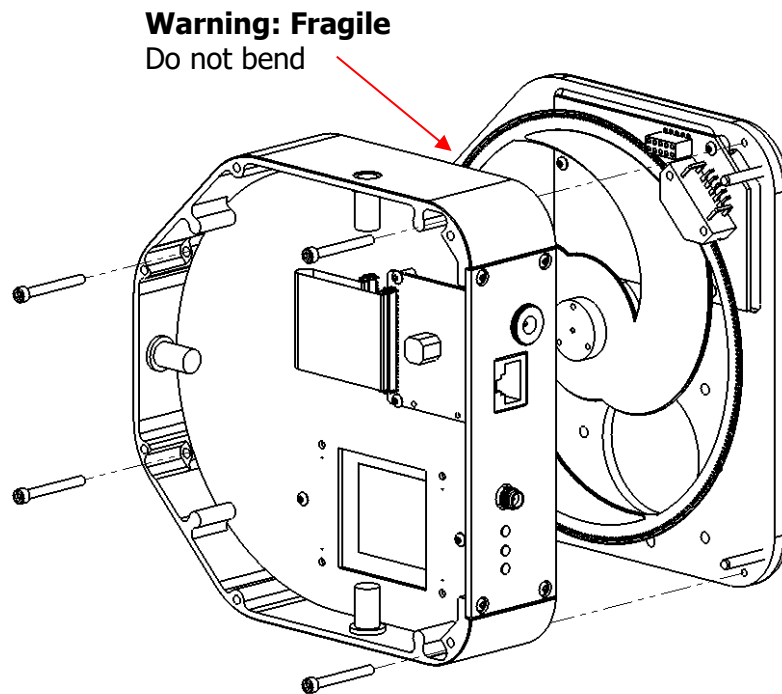

Figure B.2 Remove Front Cover
STEP 2. Remove the front cover by removing the four (4) screws as shown in Figure B.2. Be careful not to damage the chopper when removing the front cover.